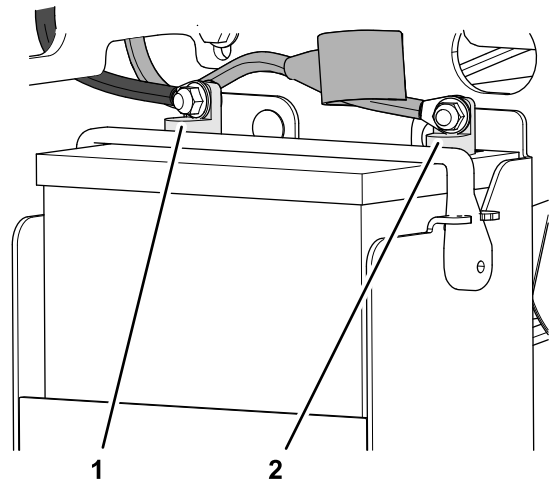

Figure 83
- If the positive cable is also disconnected, connect the **positive (red) cable** to the positive battery terminal and slip terminal cover over the positive terminal (Figure 83).
- Carefully slip back the insulator cover of the positive battery cable over the battery terminal (Figure 83).